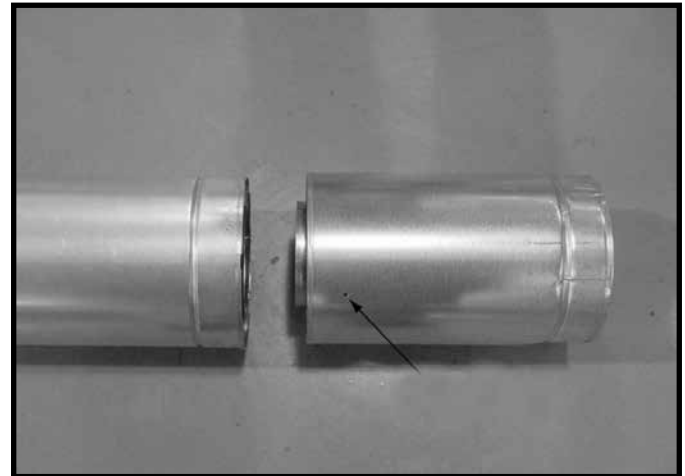

Figure 7.7 Screws into Slip Section
- Secure the pipe and slip section with two screws no longer than 1/2 in. (13 mm), using the pilot holes in the slip section. See Figure 7.7.